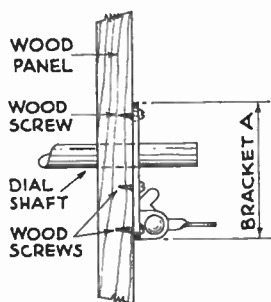
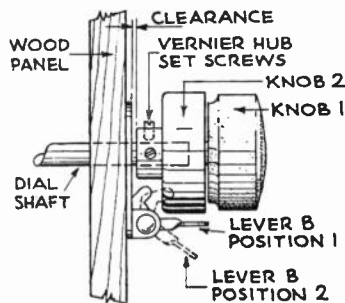

Fig. 3
Fig. 4
- 9 - Place bracket (see Fig. 3) in vertical position, with the lever "B" (see Fig. 4) at the bottom. Fasten the lever to the front panel with wood screws furnished, making sure that the shaft hole in bracket clears dial shaft.
Push lever "B" back in position No. 1 (see Fig. 4), then place the metal vernier and wood knobs on shaft, allowing a clearance between back of the knob and bracket of the thickness of a post-card. The easiest way to do this is to place a post-card against the bracket, push metal knob against post-card, then tighten set screws.
Referring to the illustration of the Tuning Control, when lever "B" is in position No. 1 (see Fig. 4) it is in the high speed position, and tuning is accomplished by grasping both knobs and turning together.